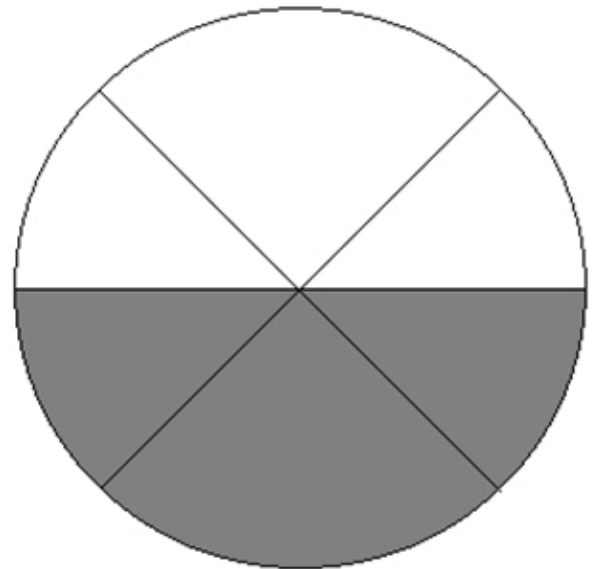

Fig.2
This principle is used by the refractometer in order to determine the refractive indices. In the refractometer light beams from different angles fall upon the surface, its refractive angles are always greater than 90°. A telescope is used to observe the emerging beam and a bright and dark image can be observed in the field of view in the telescope, appearing as distinct boundary line in between, as indicated in fig. 2. The boundary line between the brightness and the darkness is just the position of the critical angle.
At the same time the swingable mirror (3) swivels around the graduation centre. The values of refractive indices of different positions will be imaged on the screen (6) with the help of the mirror (10), the reading objective (9) and the paralleling prism (8) (as shown on the bottom part of fig. 2).